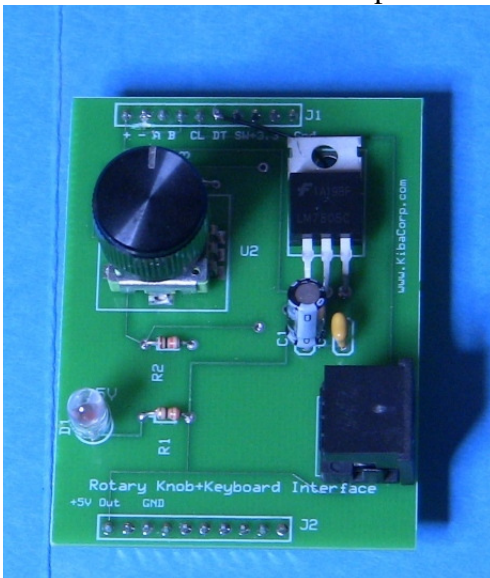

Figure 5 Mini-Kit Assembled
1. Layout all the components from kit bag on your work area. Place the PCB board silk screen labeling so the top side silkscreen is visible as shown in Figure 5 below